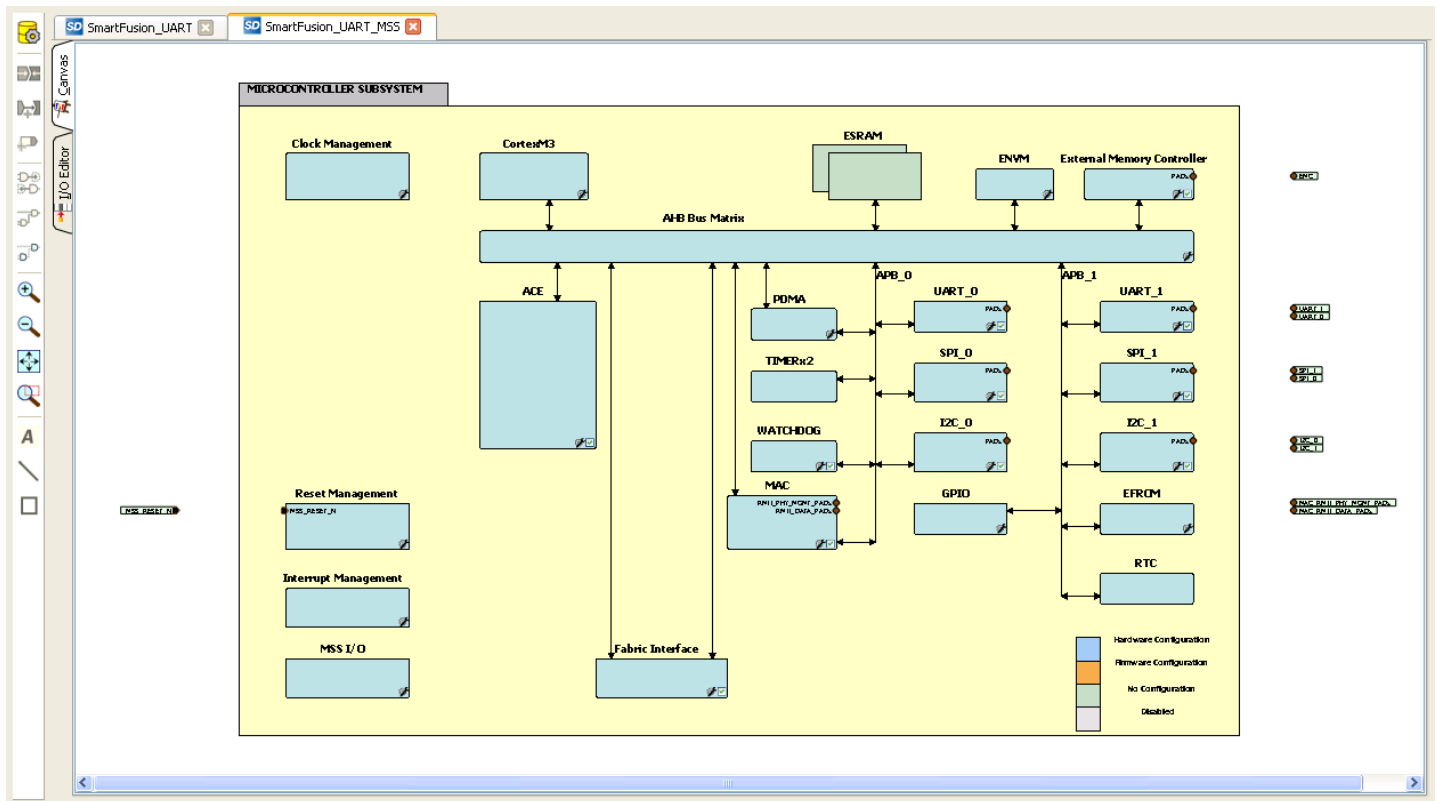

Figure 5 · MSS in the SmartDesign Canvas
- Double-click the **SmartFusion_UART_MSS_0** component to configure the MSS. The MSS is displayed in the SmartDesign Canvas in a new tab, as shown in Figure 5 . .